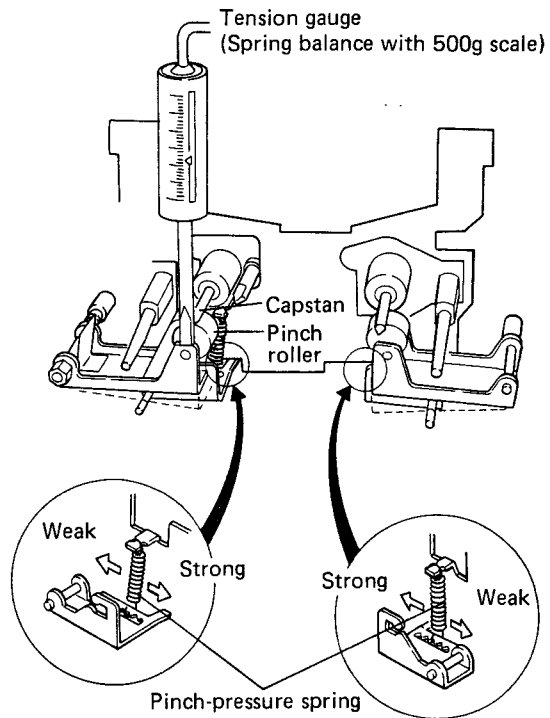

Fig. 9-1 Pinch roller pressure adjustment
2. Using a tension gauge (Stick weighing instrument: approximately 500g full scale), gently drop the pinch arm (Fig. 9-1).